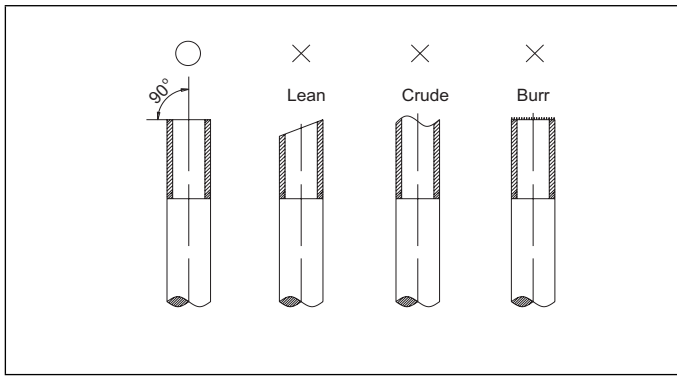

Figure 23. Cutting Piping
- Cut the selected pipes with a pipe cutter. Make the cuts flat and smooth as illustrated in “Figure 23. Cutting Piping”.